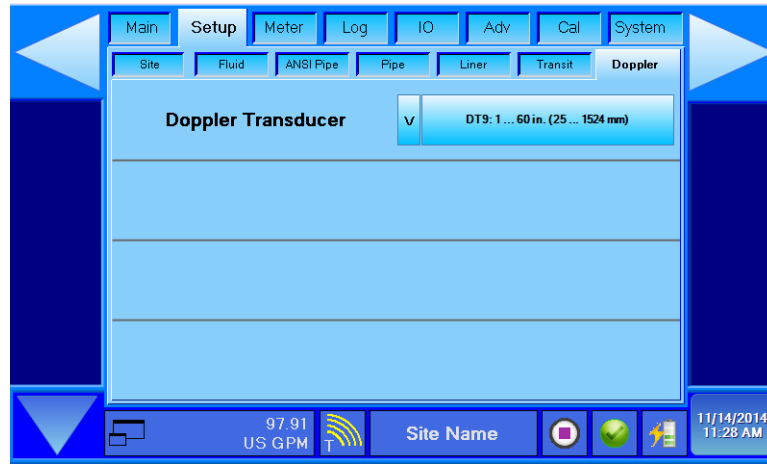

Figure 64: Doppler transducer selection
**NOTE:** Pipe thickness transducer must be applied perpendicular to the long axis of the pipe/tube (See Figure 64).